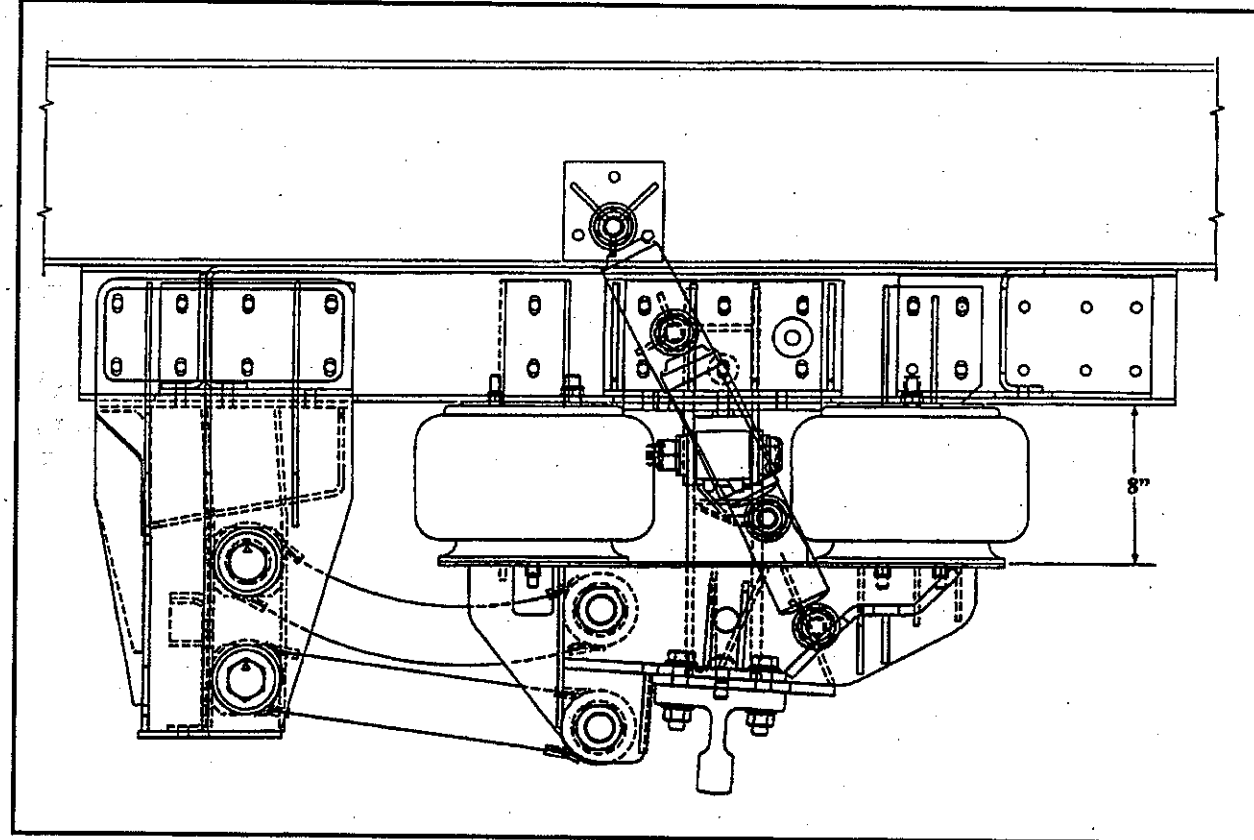

Figure 3—Air Suspension Ride
See Figure 3—Air Suspension Ride
5. Measure air spring height. (See Figure 3—Air Suspension Ride Height Specification.)